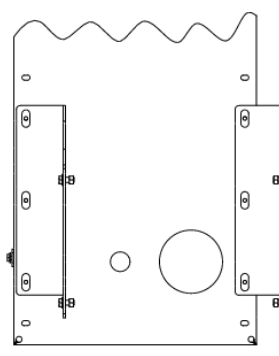

Figure 17 - Mounting Brackets in Position C
2. Using the hardware provided, assemble the two brackets to the back cover as shown in Figure 17. Note that the brackets are mounted so that the angles of the brackets are mounted in the same direction. Do not fully tighten these bolts.